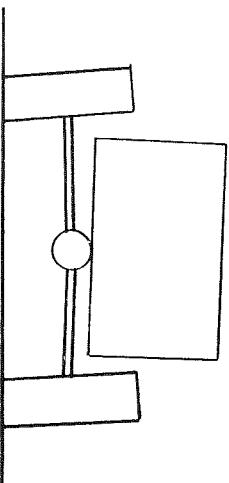

Fig. 7
2. FIG. 7 Body begins to roll out of the corner. The negative camber rate in roll of the suspension causes the wheels to lean *into* the corner.